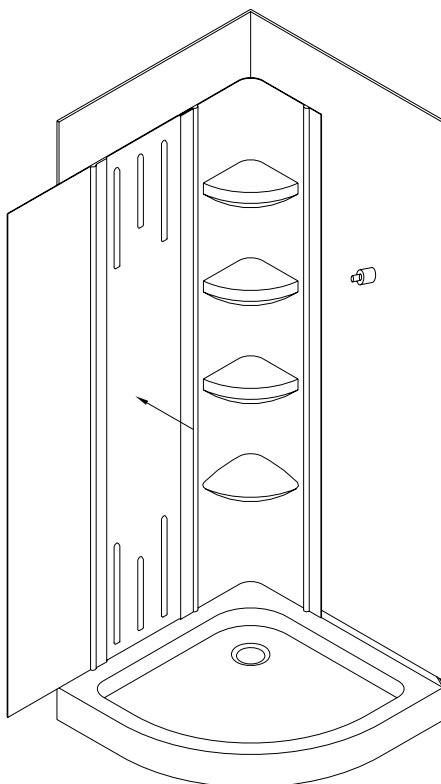

Fig 5
5. Place the side panel in position and apply pressure to the complete surface top to bottom to ensure good overall contact. DO NOT trim (Fig 5).